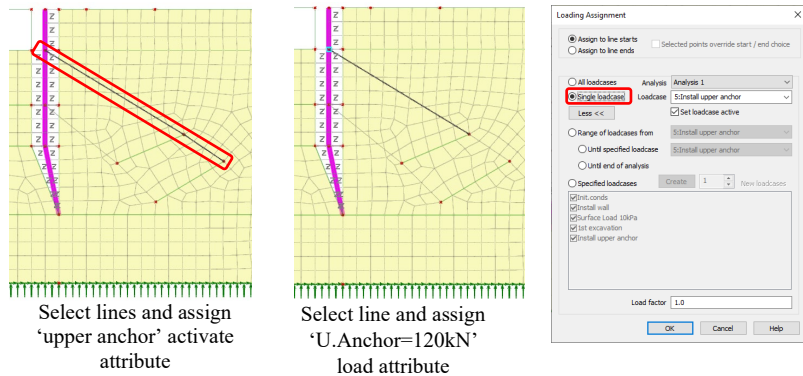

Figure 48: Installation of upper anchor
- Select the lines representing the upper anchor rod and grout and assign the **Activate Elements** attribute **upper anchor** (figure 48).